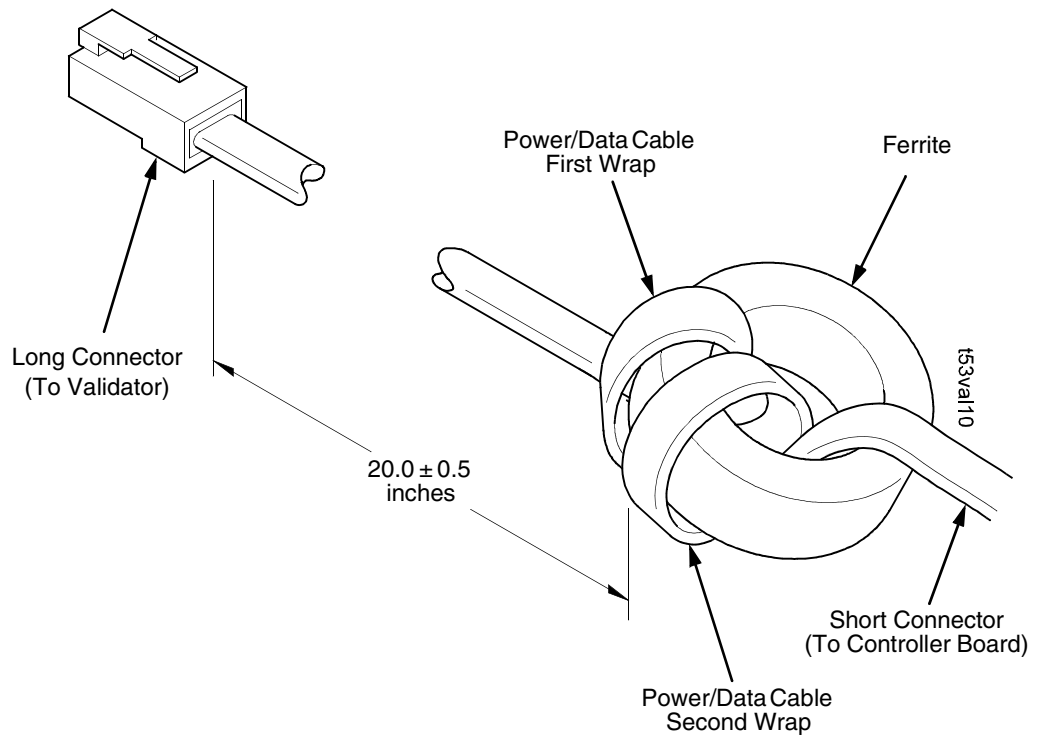

Figure 4. Wrapping the Power/Data Cable Around the Ferrite
4. Using the end of the power/data cable with the short connector, insert the cable through the ferrite. (Figure 4.)